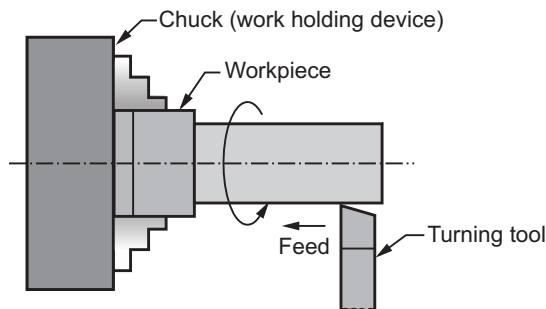

Fig. 5.6 : Straight turning
- The cutting tool is held in the tool post and fed into the rotating work parallel to the lathe axis. Refer Fig. 5.6.